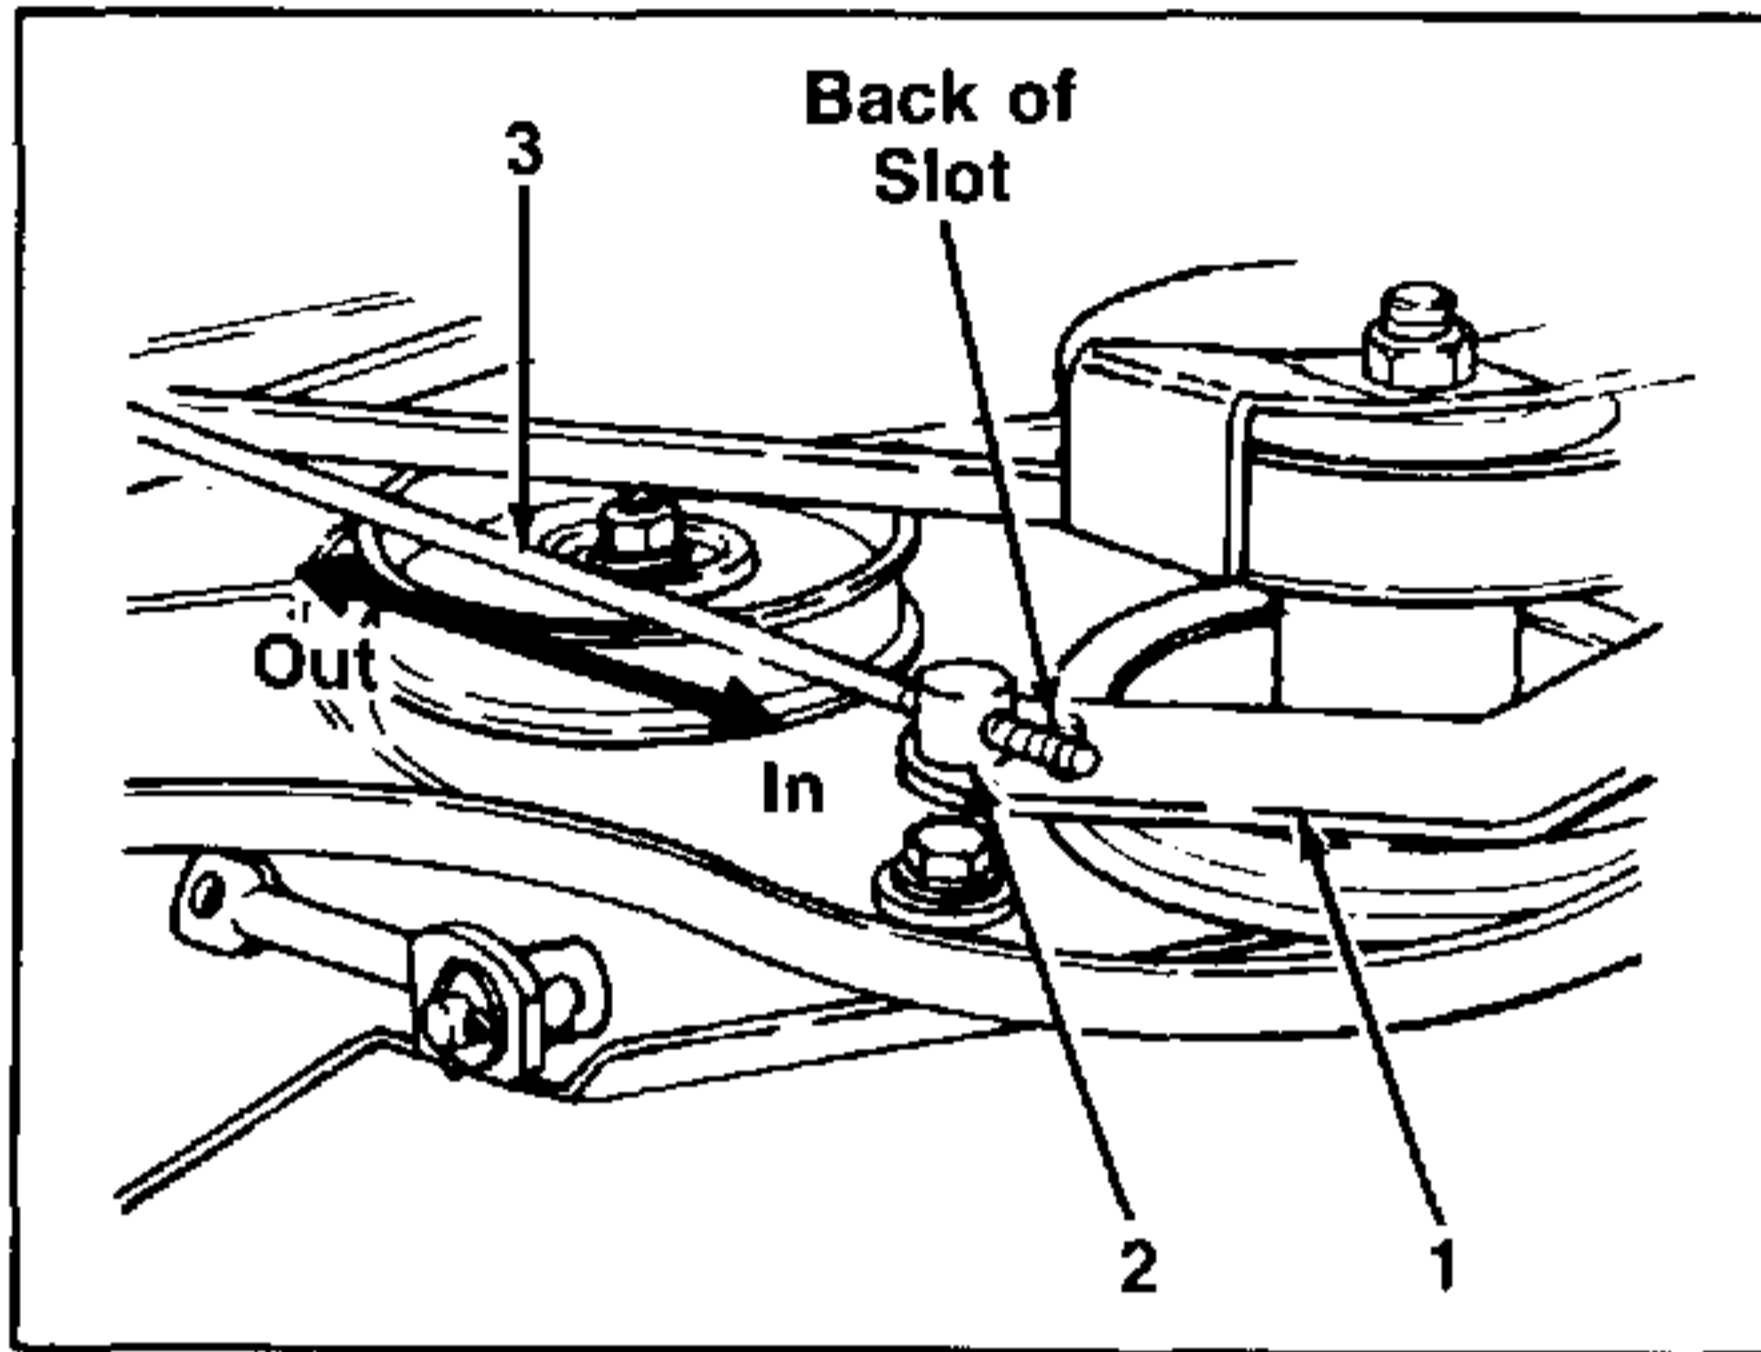

FIGURE 19.
5. To attach the brake rod to the clutch rod, turn the brake rod in (shorten) or out (lengthen) of the ferrule mounted to the brake bracket assembly. Refer to figure 19.